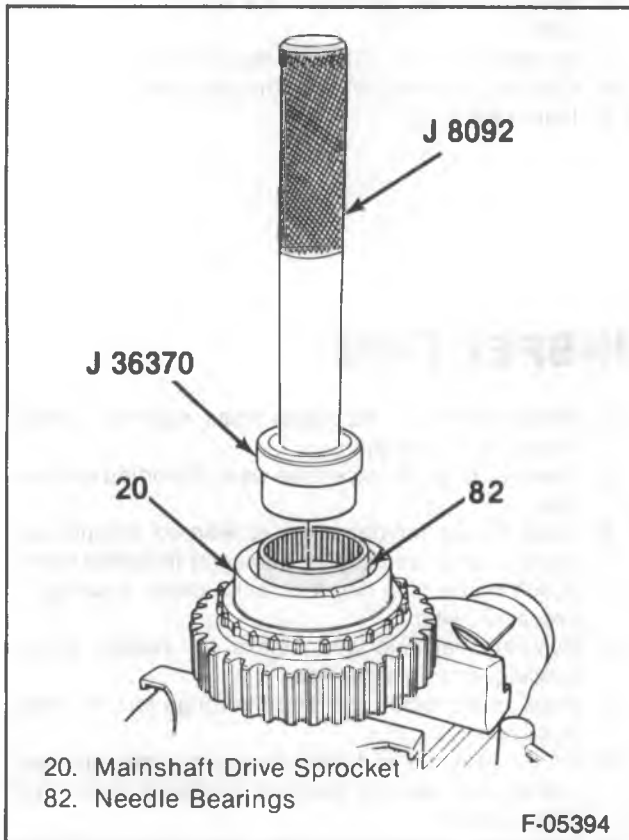
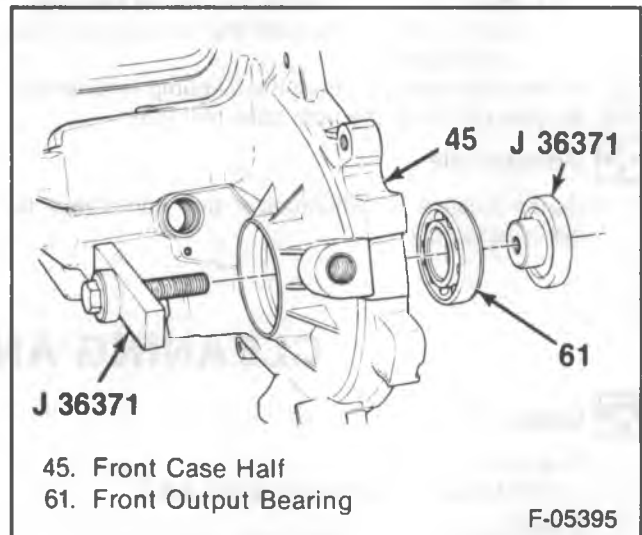

Figure 10—Installing the Needle Bearings to the Front Drive Sprocket
Figure 11—Installing the Front Output Bearing
- 1. Needle bearings (82) to the drive sprocket (20) using J 36370 and J 8092 (figure 10).
- 2. Needle bearing (24), to the rear case half (17) using J 36372 and J 8092.
- 3. Bearing (61) to the front case half (45) using J 37371.
- 4. Retainer (60) (figures 11 and 12).